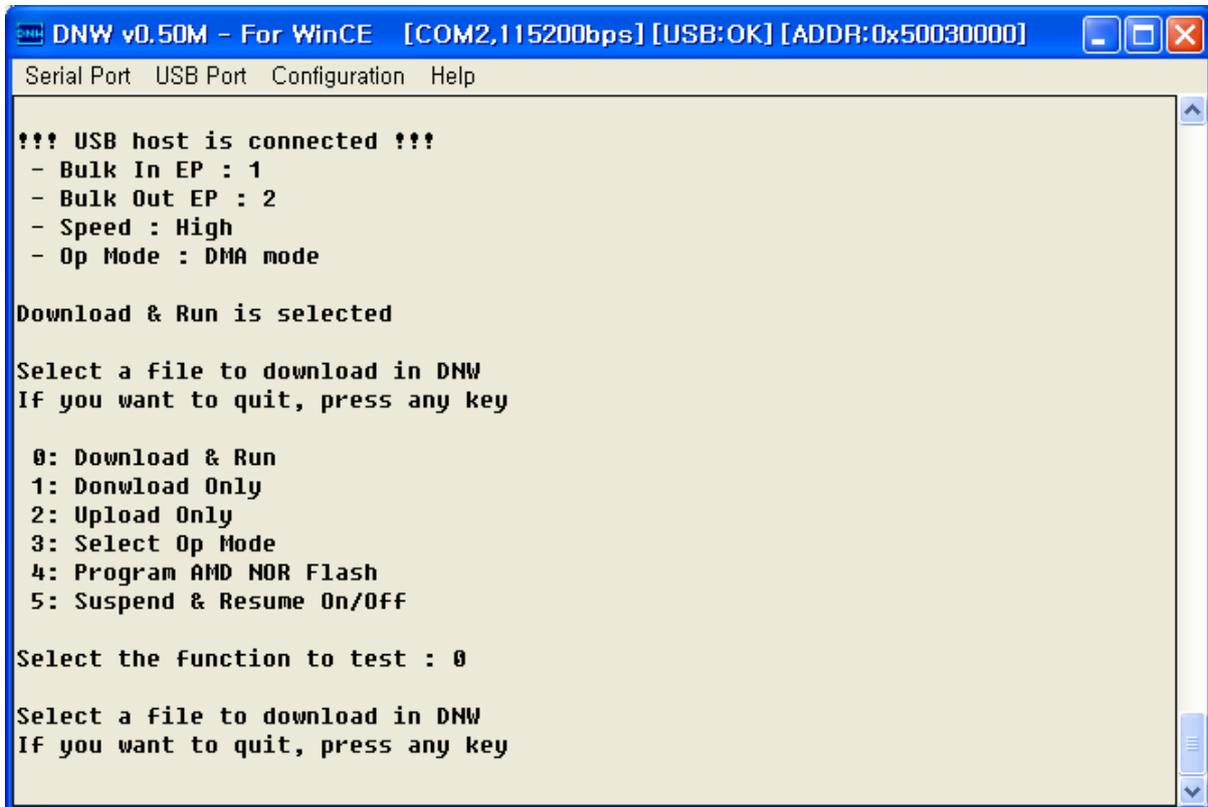

Figure 6-5 Download &amp; Run
8. Enter 0 to download and run the Image on the board. DNW window appears as shown in figure 6-5.